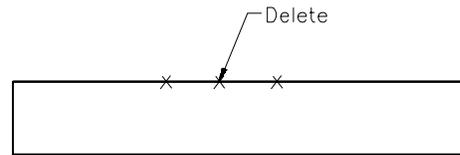

Figure 2-35 The part of the line to be deleted
1. Choose **SKETCHER > Delete** from the **Menu Manager**. Select the line between the two division points to delete the line segment as shown in Figure 2-35.